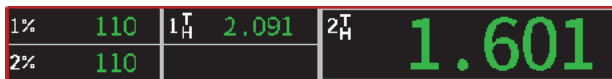

Figure 4-7 Highlighted measurement reading bar
1. While on the live A-scan display, press Tab () to highlight the measurement reading bar, outlining it in red (see Figure 4-7 on page 50).